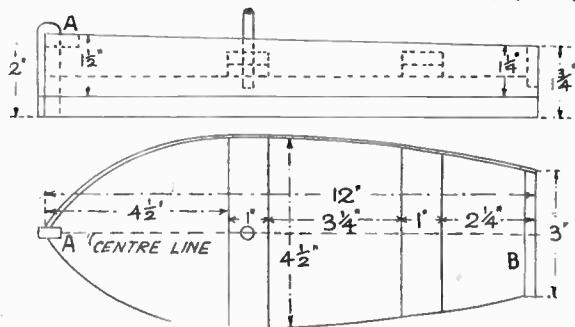

Fig. 1—Side view and plan with dimensions
Next there are the cross pieces (C) and (D) (Fig. 2) and each is made up of two thicknesses of ¼ in. pinned together. The lengths of these pieces can be calculated from the plan (Fig. 1) after the measurements shown are set out on the hull piece. Clean off the ends of the pieces level with the hull sides so that the correct curve is preserved throughout.
For the sides of the boat take the measurements direct from the already made-up hull, allowing a trifle in length for chamfering at the bow and fitting to the stern. Thin wood should be used for the sides, and from the side view, above the plan, in Fig. 1 it can be seen
shape direct on the wood—a piece 12½ ins. by 5 ins. being adequate. The shape, being so simple in outline, can well be got from that shown in Fig. 1.